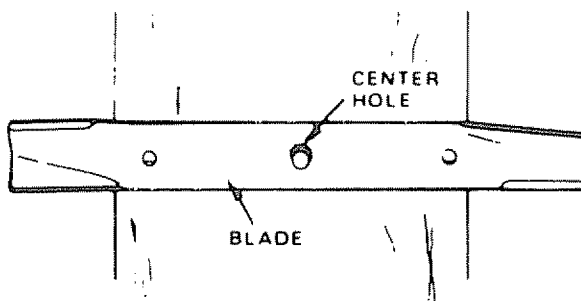

FIGURE 21
- b. To check blade balance, drive a nail into a beam or wall. Leave about one inch (25.4 mm) of the straight nail exposed. Place center hole of clean blade over the head of the nail (Fig. 21). NOTE: CENTER HOLE OF BLADE ON NAIL. IF BLADE IS PROPERLY BALANCED, BLADE SHOULD REMAIN IN POSITION SHOWN IN FIG. 21. IF EITHER END OF THE BLADE MOVES DOWNWARD, BLADE IS NOT BALANCED. SHARPEN THE HEAVY END UNTIL BLADE IS BALANCED.